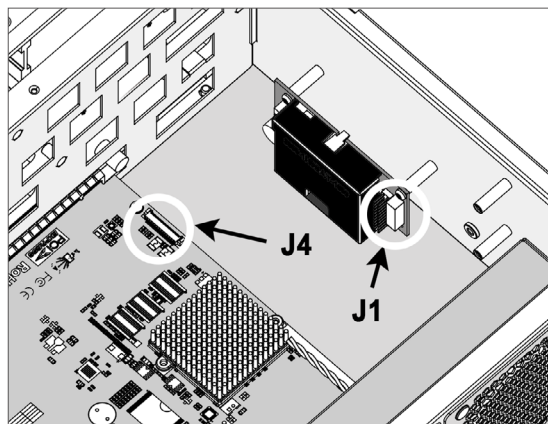

Figure B-7, Insert the cable connector into J1 & J4
3. Insert the cable connector into the **J1** (10-pin box header battery connector on ARC-1886-CBM module), and also insert another side of the cable connector into the **J4** (10-pin box header supercapacitor connector on ARC-8050T5U-16R/24R backplane), as shown in Figure B-7.